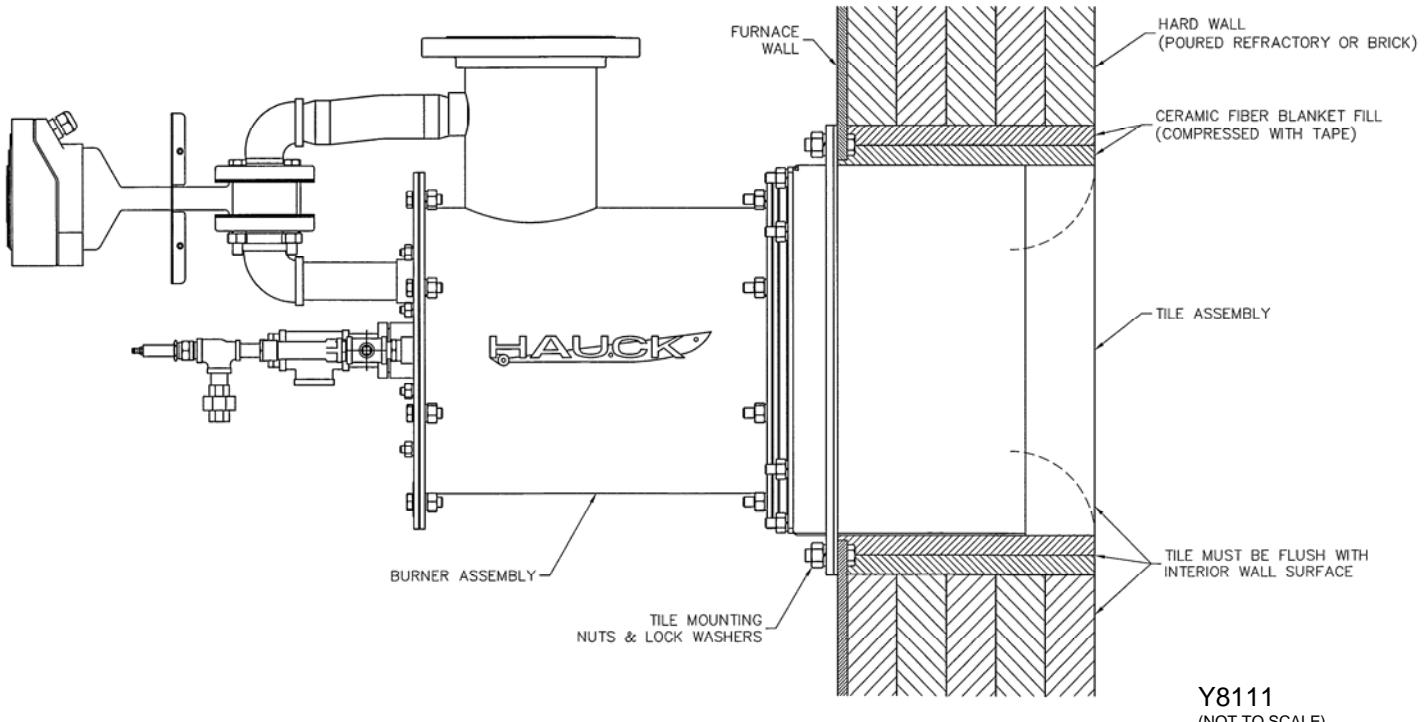

Figure 1. Burner Installation – Hard Wall
4. For installation in an existing refractory wall, refer to Figure 1. From inside the furnace, remove rammed, cast or brick refractory as required to furnish an opening 1/2" (13 mm) larger than the tile dimensions.